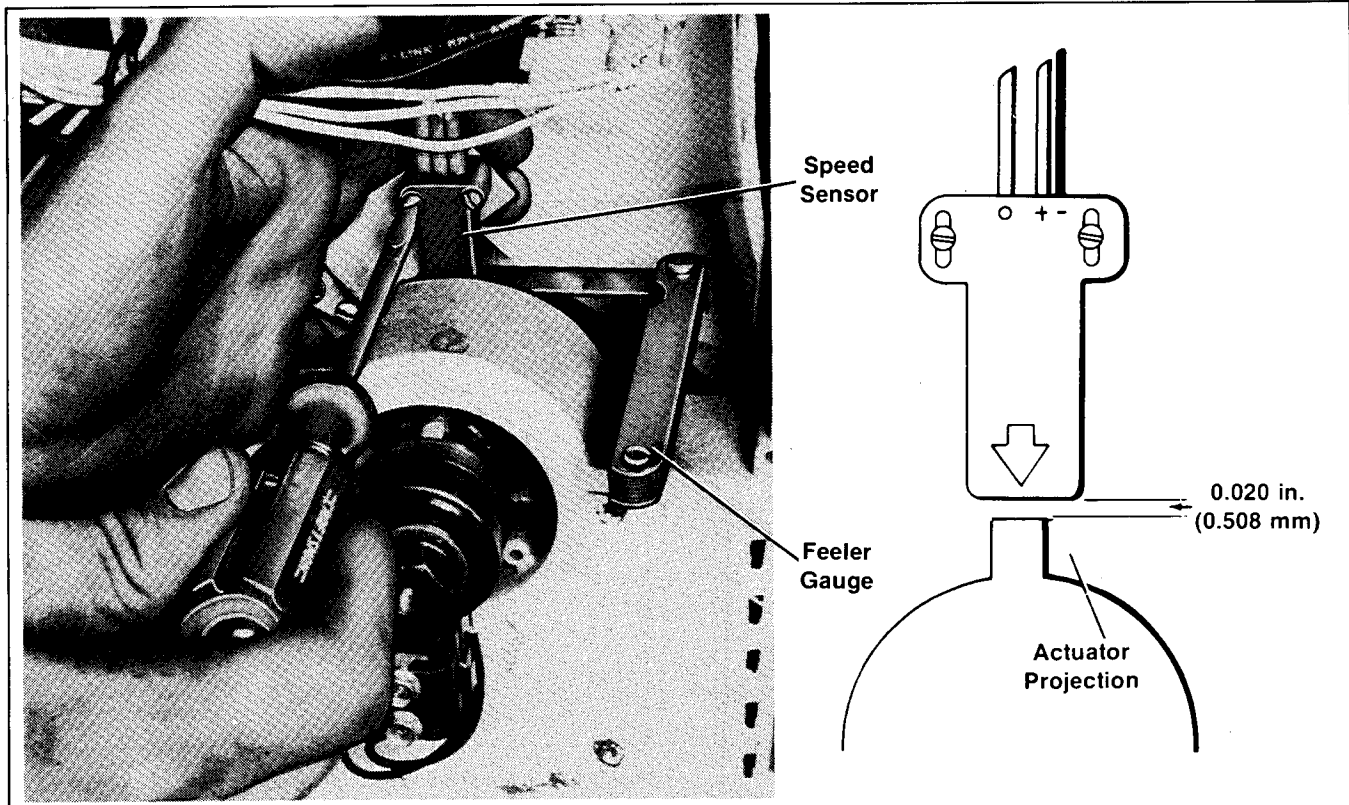

Figure 8-5. Speed Sensor Air Gap
7. Replace speed sensor. Turn rotor to position sensing lobe directly below speed sensor. Use a feeler gauge to set gap between sensor and lobe at 0.020" (0.51 mm). See Figure 8-5.